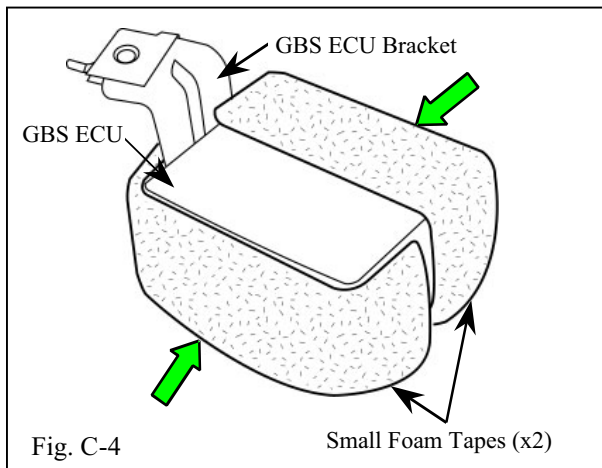

Fig. C-4
- ➔ 4. Attach one (1) strip of foam tape on the lower front edge of the GBS ECU and one (1) strip of foam tape on the rear side of the GBS ECU as shown. (Fig. C-4)